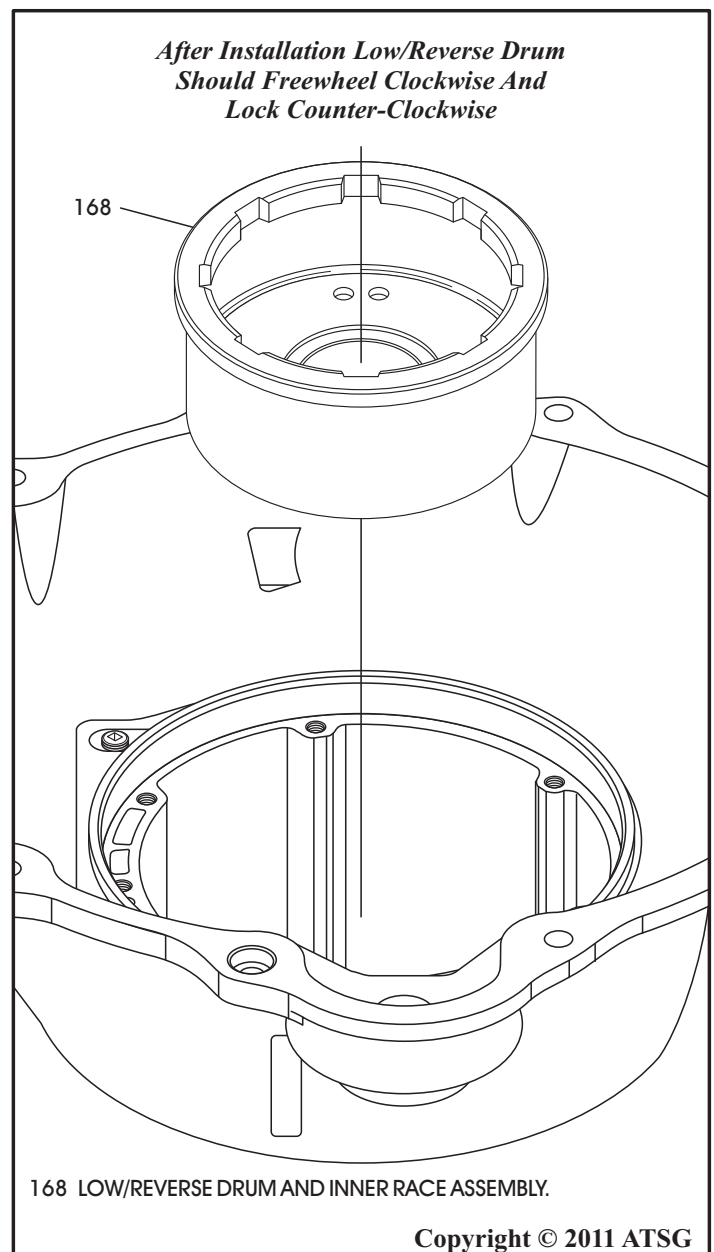

Figure 218
4. Install low/reverse drum and inner race assembly into low roller clutch, as shown in Figure 218, twisting clockwise as you install.